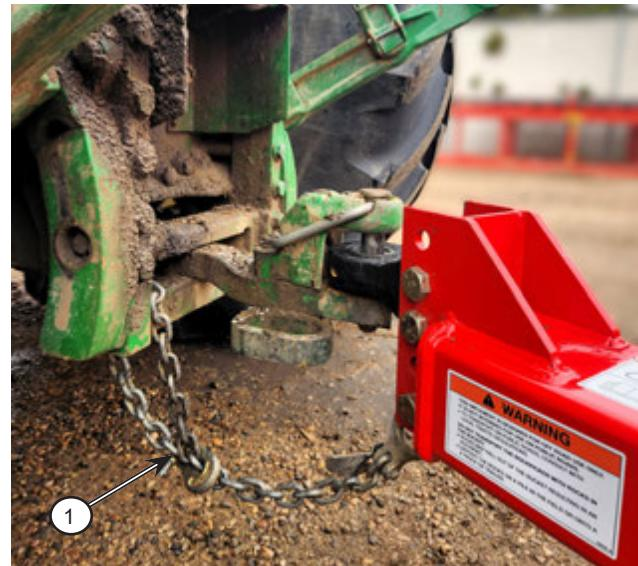

Figure 4.3: Connect the hitch to the tractor draw-bar and the safety chain
2. Connect the hitch to the tractor draw bar, as per *Figure 4.3*.
3. Connect the safety chain (1) to the tractor, as per *Figure 4.3*.